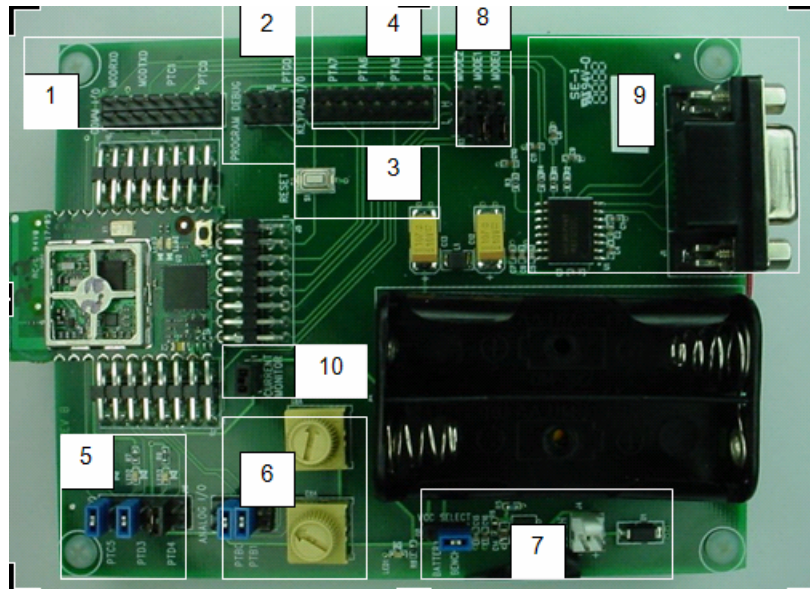

Figure 3-1 Interface Module with FreeStar Module Inserted in Socket
1. Press white reset button on Interface Board (See Figure 3-1 location 3) and black button on FreeStar module simultaneously.
### 3.1.1 *Interface Board Description for Each Location Shown in Figure 3-1*
- Header that allows the user to monitor the serial TX (MODTXD) and RX (MODRX) data lines from section 9 as shown in Figure 3-1 above. The header also provides quick access to Port C pins 0 and 1 on the microprocessor.
- To utilize LED's the jumpers must be connected as shown in Figure 3-1. The jumpers may be removed to externally access Port C pin 5 and Port D pins 3 and 4 for input or output operation.